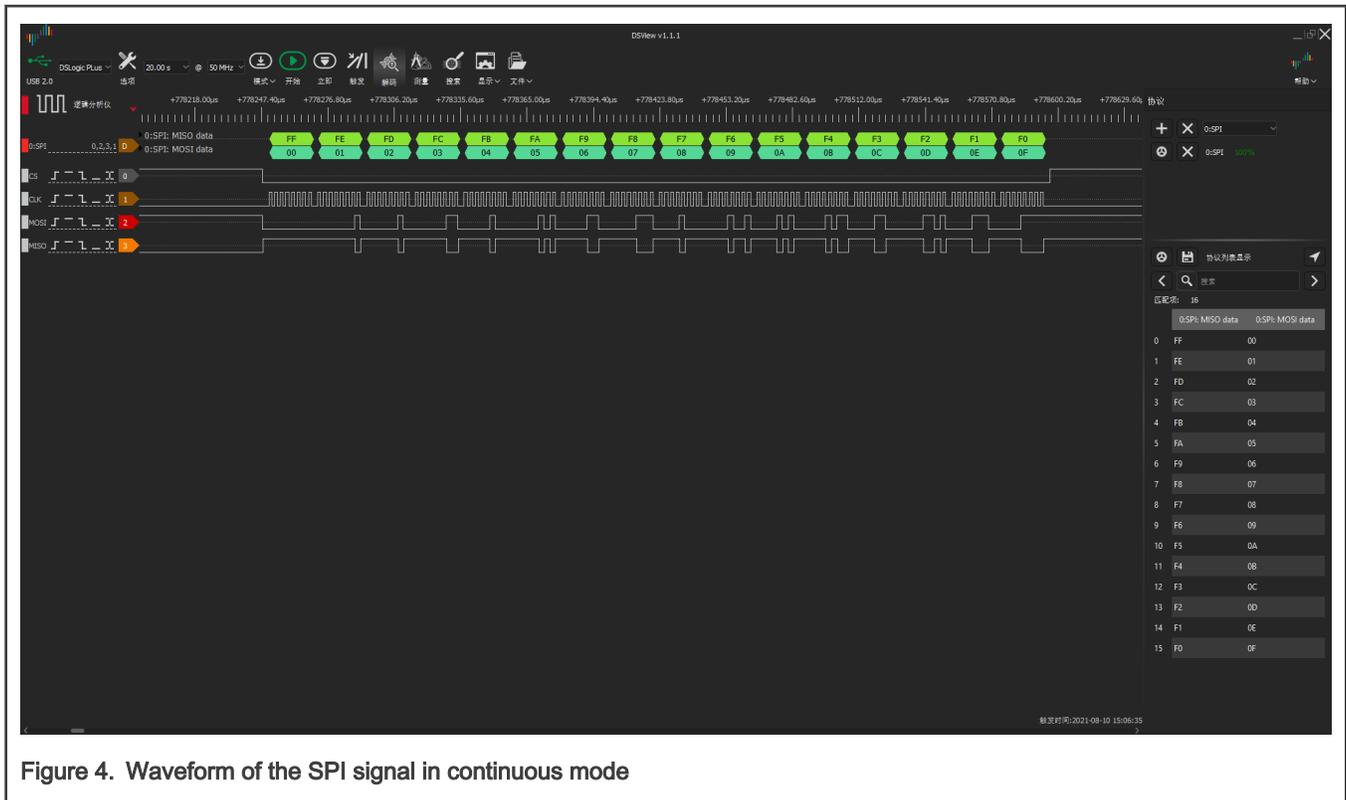

Figure 4. Waveform of the SPI signal in continuous mode
**Figure 4** shows the waveform of the SPI signal in continuous mode. After a frame has been transmit/received, a simple check will check whether any problems occurred during the transmission. If no problem occurs, inputting any character in the serial terminal starts a new frame of data transmission.